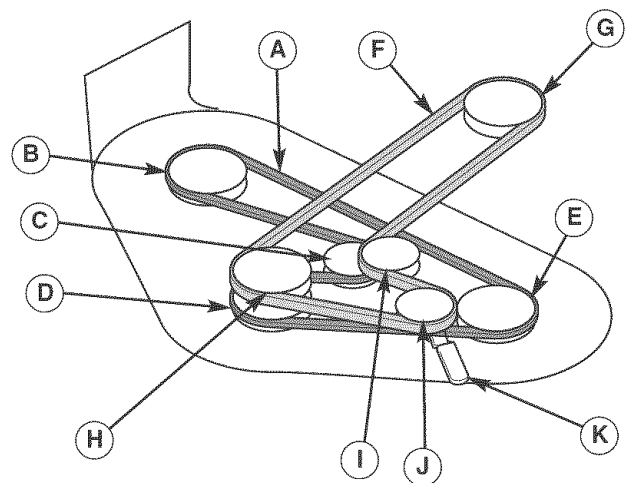

Figure 44. PTO Belt Routing
2. Use the idler pulley arm (K, Figure 44) to release belt tension and remove the mower drive belt (F) from the PTO pulley (G).
4. Install the new belt (F) as shown in Figure 44.
Contact a Sears Parts & Repair Center for replacement of the arbor drive belt (A, Figure 44).